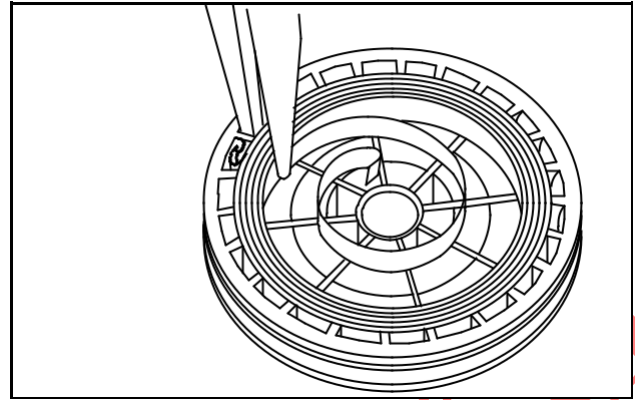

Fig. 25
9. With a pair of needle nose pliers grasp spring as close to spring hook on outside edge of pulley and lift out spring, Fig. 25.